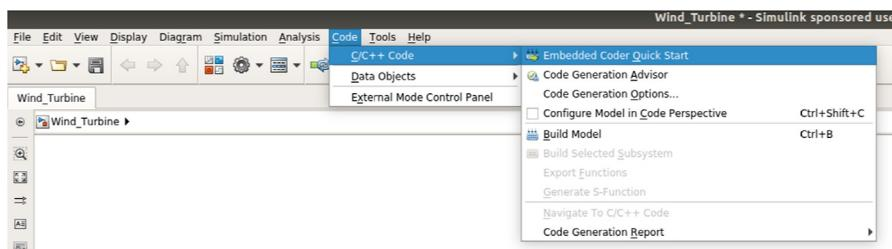

Figure 10.57 Embedded coder quick start.
8. Save and close the model. Open the model again, and in the top bar menu of Simulink, go to Code->C/C++ Code->Embedded Coder as shown in Fig. 10.57. The quick start shall guide you to the process of generating C code for the model while selecting the correct settings for the C Code. Once the C code is generated, open the ert_main.c file in the Wind_Turbine_ert_rtw folder that is created after code generation. The two main functions of the generated ert_main.c file are shown in Figs. 10.58 and 10.59.